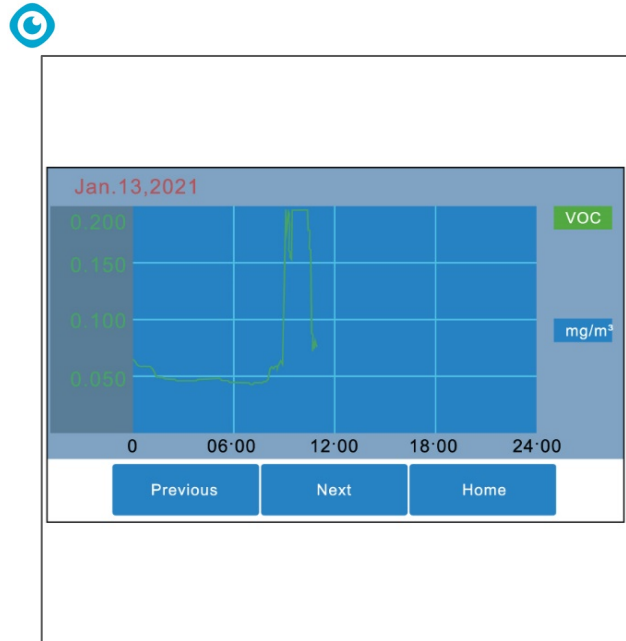

Figure 11
2. The VOC overview opens (Figure 11).